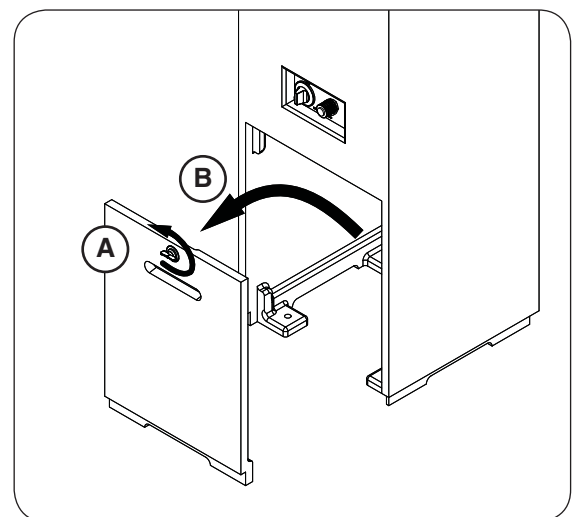

Fig. 19-2 Remove door
1. Remove the storage door by first turning the door handle counter-clockwise, then carefully pulling the door outward (see Fig. 19-2). Store in a safe location.